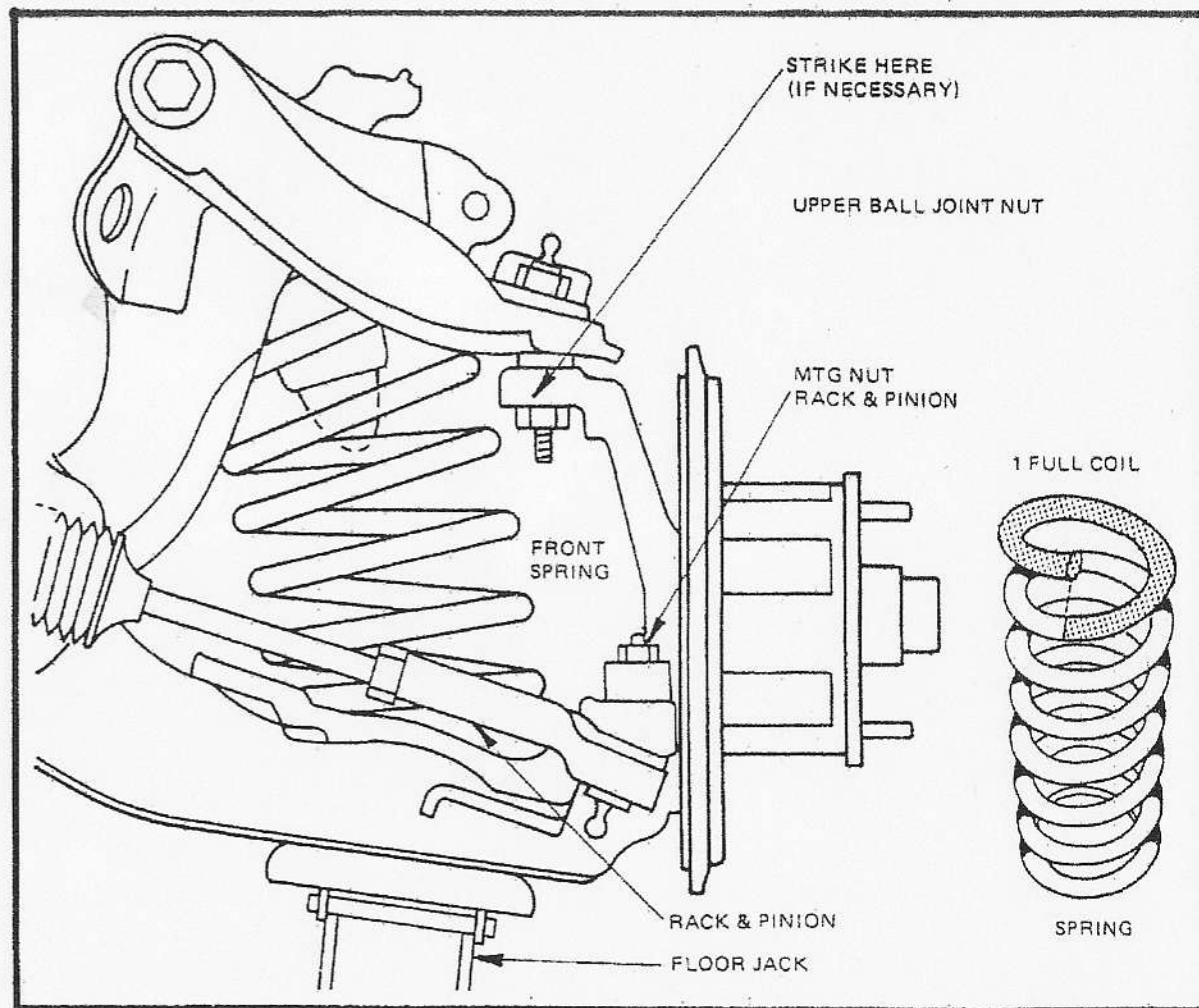

Figure 22
- ☒ Disconnect rack and pinion from wheel. Secure chassis on jack stands under frame. Place a floor jack under wheel assembly and compress spring. Use additional weight on front end if necessary. Loosen upper ball joint nut about halfway. Do not remove. If ball joint will not work free, rap on side of wheel assembly with a hammer to free it. Do not strike threaded portion. Remove nut and slowly lower wheel assembly until spring is free. If spring should get stuck use a rubber mallet or screw driver to free it. (Figure 22)
- ☒ Cut 1 full coils off of the bottom of spring No. 362193 ATD. Reinstall in car by jacking up wheel assembly until ball joint stud can be seated. Reinstall nut and tighten. (Figure 22) Wheels and tires can now be installed to give a rolling chassis.